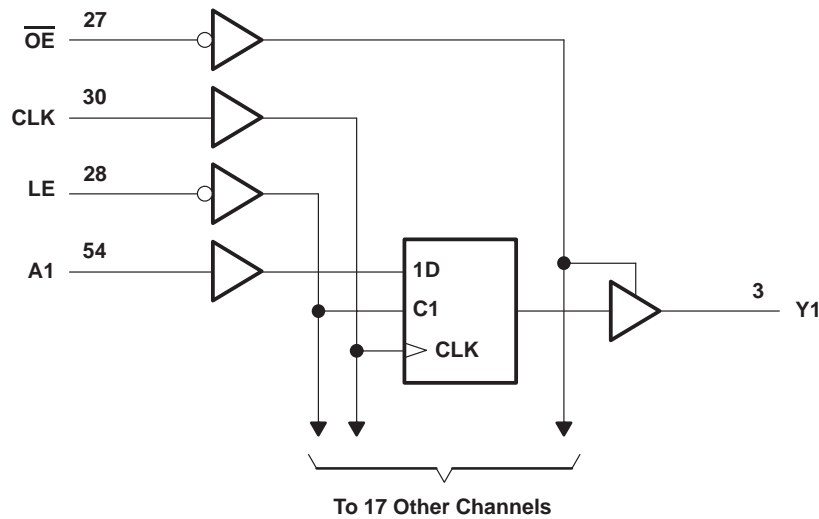

Figure 2. SN74ALVC16835 Logic Diagram
The SN74ALVC16835 is an 18-bit universal bus driver with 3-state outputs designed for 2.3-V to 3.6-V V_{CC} operation (see Table 2 and Figure 2). When the latch-enable (LE) input is high, the device operates in the transparent mode and the Y outputs follow the A inputs. If the clock (CLK) input is held in a high or low state, the device operates like a D-type latch and the Y output data is latched when LE is taken low. If CLK is clocked, when LE is low the Y output data is stored in the flip-flop on the low-to-high transition of CLK. The 3-state outputs are controlled by the active-low output-enable (\overline{OE}) input. When \overline{OE} is high, the outputs are in the high-impedance state. When \overline{OE} is low, the outputs are enabled.